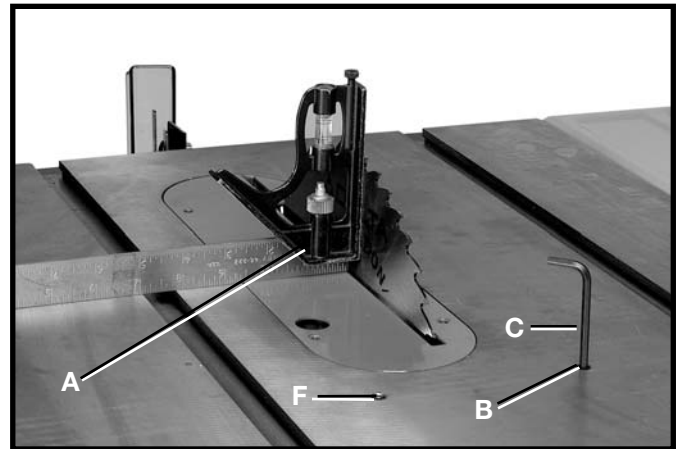

Fig. 43
3. Using a combination square (A) Fig. 43, check to see if the blade is at 90 degrees to the table surface as shown.
4. If the blade is not at 90 degrees to the table, loosen set screw (B) Fig. 43 with allen wrench (C), and turn the blade tilting handwheel until you are certain the blade is at 90 degrees to the table. Turn set screw (B) clockwise until it bottoms.
7. If the blade is not at 45 degrees to the table, loosen set screw (F) Fig. 43, and turn blade tilting handwheel until you are certain the blade is 45 degrees to the table. Turn set screw (F) clockwise until it bottoms.